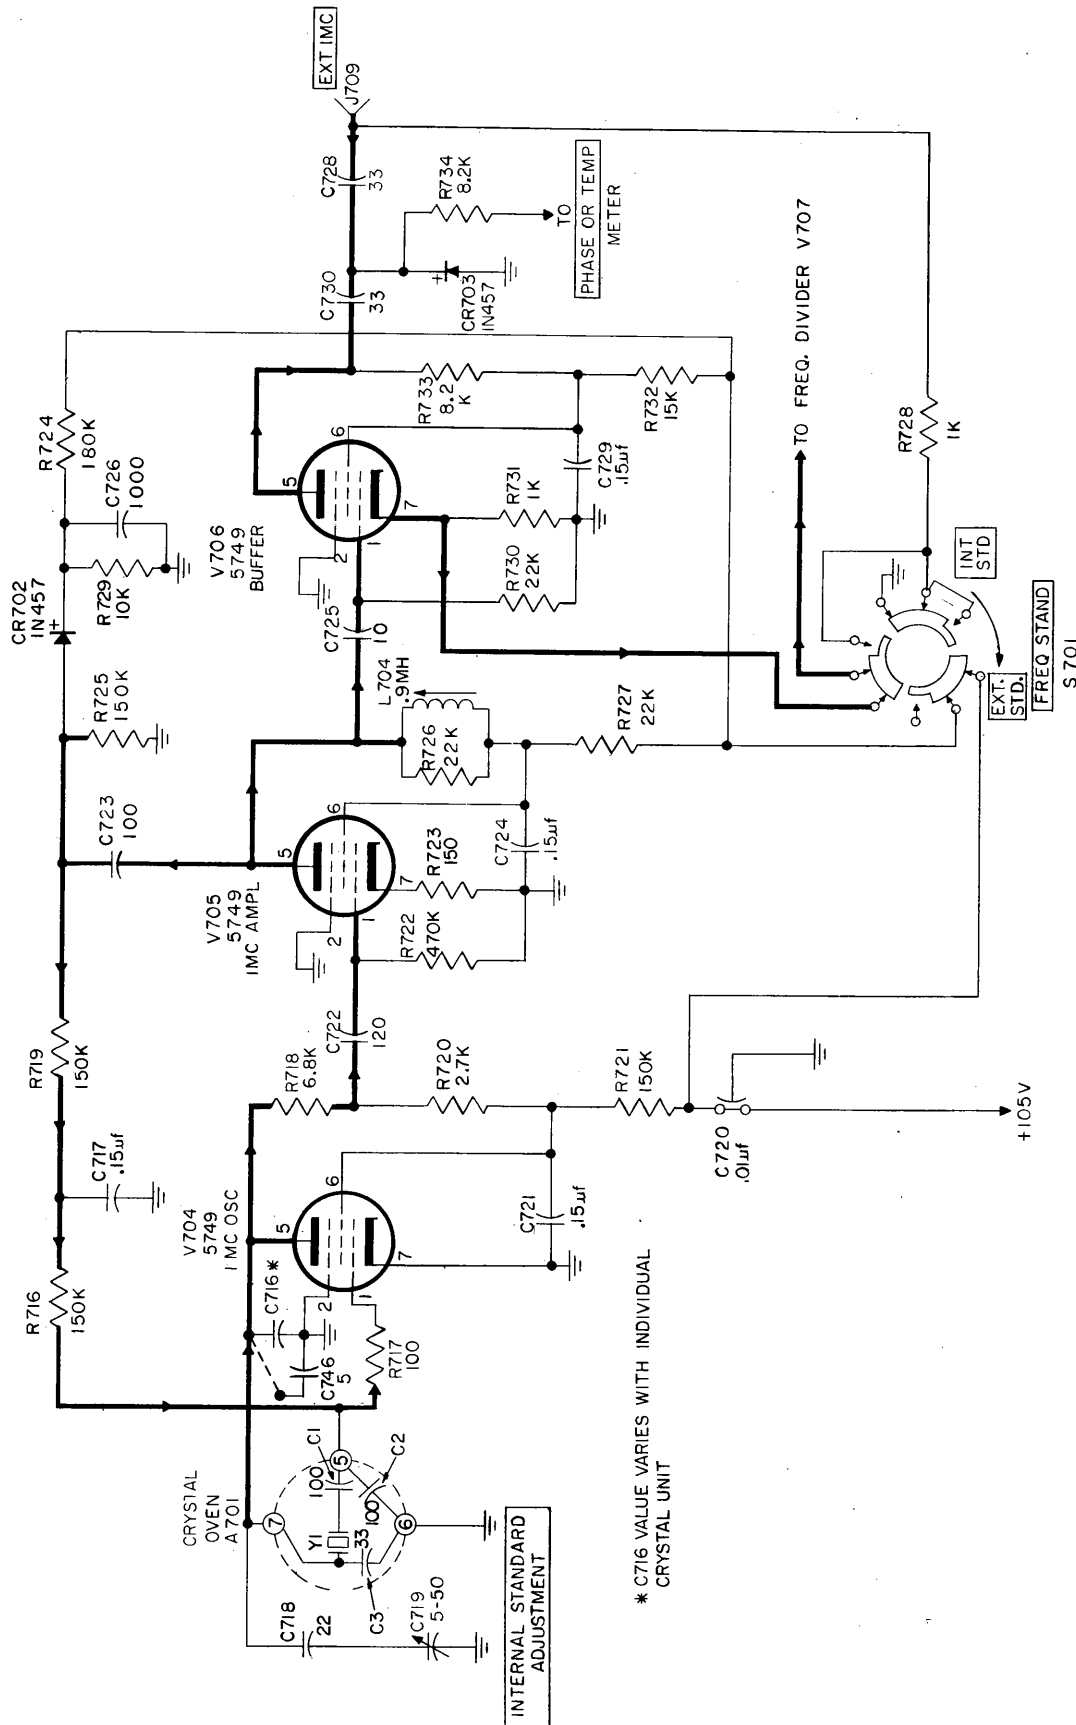

Figure 4-39. Crystal Oscillator-Amplifier, Simplified Schematic Diagram
**b. CRYSTAL OSCILLATOR-AMPLIFIER.** (See figure 4-39.)—The crystal oscillator-amplifier circuit produces the standard 1 mc frequency from which, through division, the 100 kc output of the crystal oscillator section is derived. It consists of crystal oscillator V704, 1 mc amplifier V705, and buffer V706.